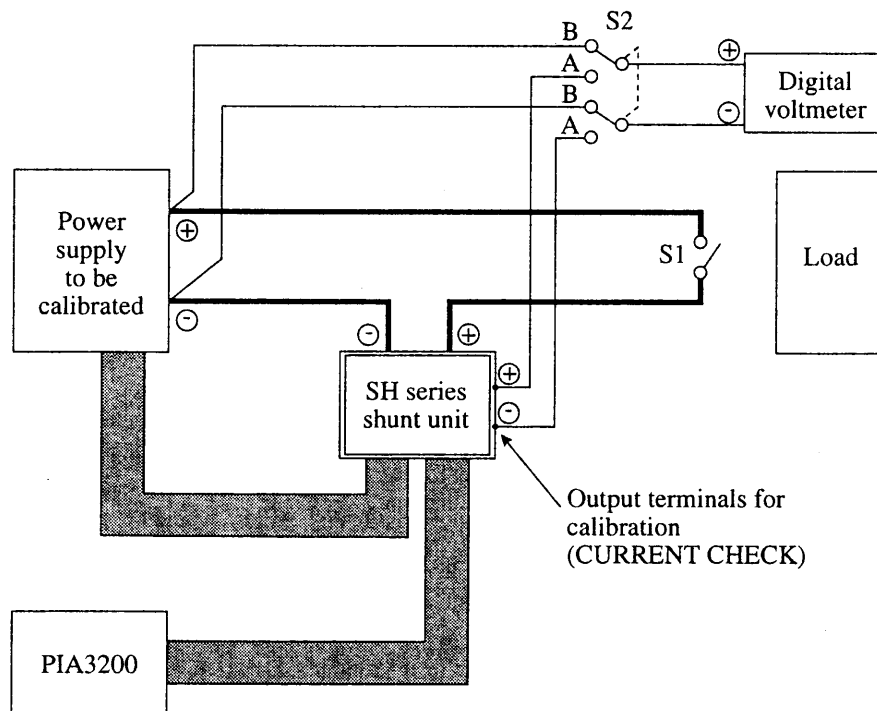
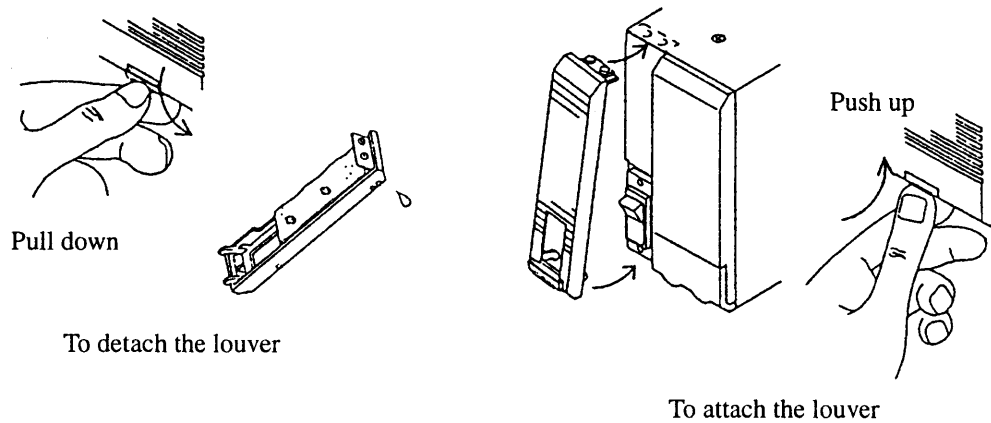

Fig. 2-8 Calibration Circuit of a System Using a Shunt Unit
Fig. 4-1 Detaching and Attaching the Louver
For the calibration procedure, see Chapter 4, “Calibration in Local Mode,” in the PIA3200 Operation Manual. Note that Fig. 4-1 in the PIA3200 Operation Manual must be replaced by Fig. 2-8 below to perform calibration.
- In Fig. 2-8, the connection between the shunt unit and the power supply to be calibrated is simplified. For details, see the connection diagram for each power supply series.
- S1 in Fig. 2-8 may be provided on the negative side of the power supply to be calibrated.